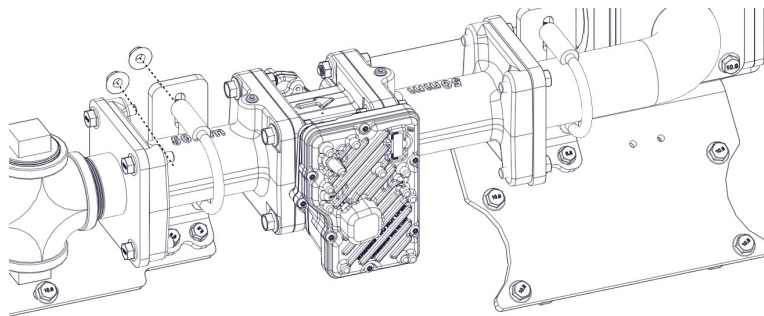

Figure 32.
6. Secure the MFG Valve by inserting and torquing down the U-clamps (Figure 32) to 12 ft/lbs.